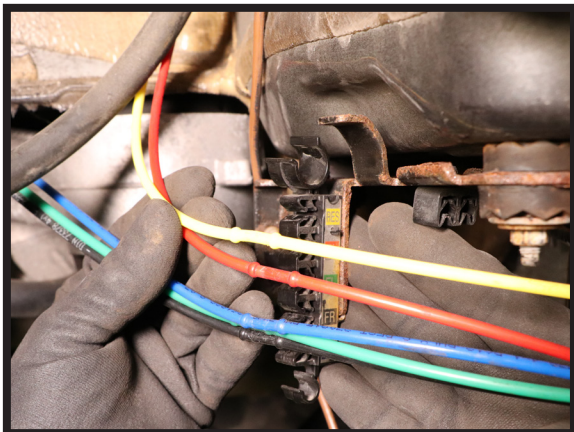

FIGURE 15
9. UNCLIP THE AIR LINES FROM THE COMPRESSOR BRACKET ASSEMBLY. (FIGURES 15, 16)